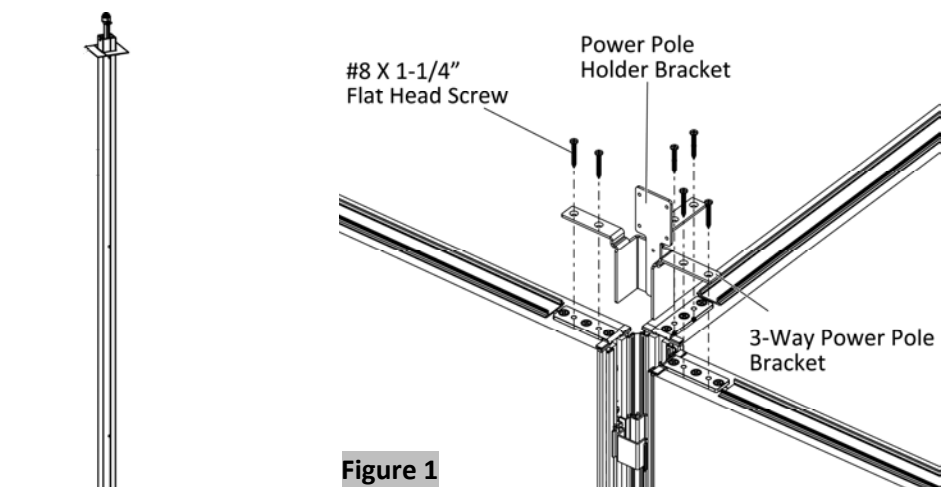

Figure 1
2. Position the 3-way power pole bracket on top of the panels at the intersection, (Figure 1).